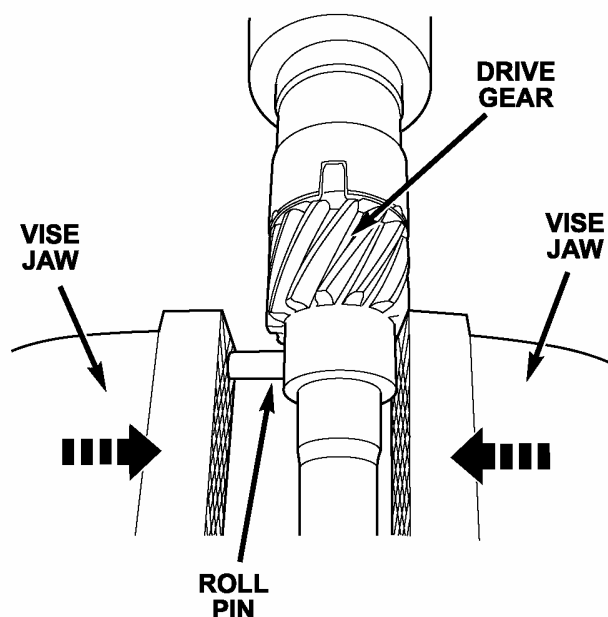

Figure 21
- e. Install the new roll pin by lightly tapping the roll pin into the drive gear. Use a vise to press the roll pin flush to the drive gear surface (Figure 21).